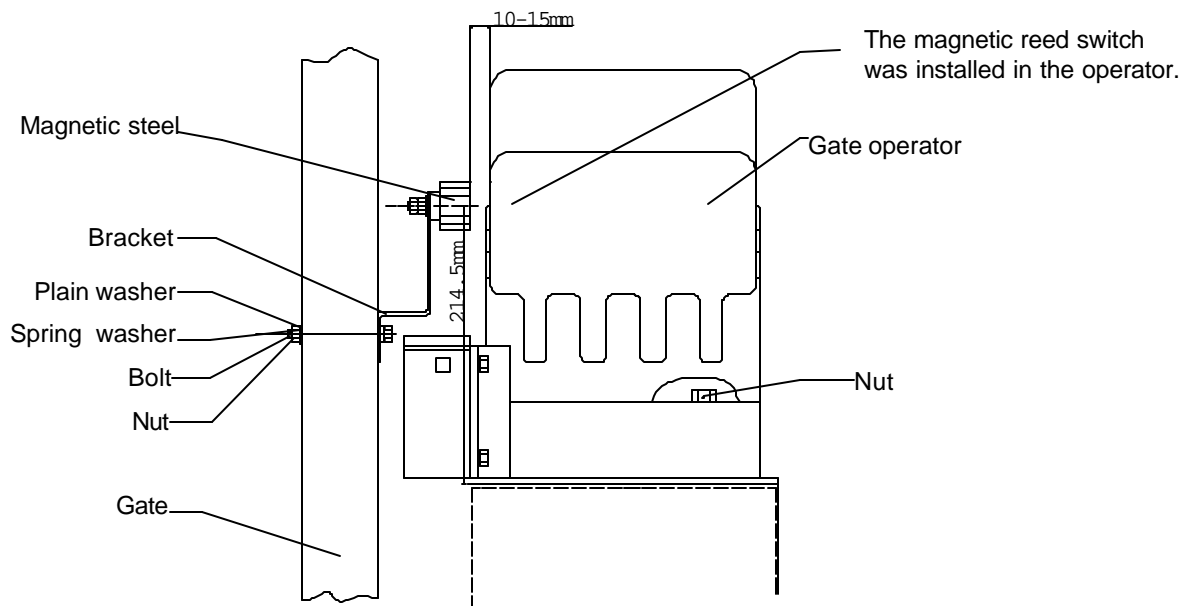

Fig.6
- Install the magnetic steel and magnetic reed switch as shown in figure 6. The magnetic steel and reed switch are used to control the position of the gate. When the magnetic steel is installed, release the gear clutch and push the sliding gate manually to pre-determine the position. Fit the magnet bracket to the gate and then tighten the gear clutch. The shorter bracket is for open position and longer bracket is for close position. Finally adjust the magnetic steel to the proper position by moving the gate with the motor. The magnetic steel should be .39 - .59 "away from the magnetic reed switch. If it is too far away, the switch will fail to work. The distance between the magnet and the operator should be @ ½" (12mm) with the operator cover on. Adjust the position of the magnetic reed switch until the positions of the opening and closing meet the requirement.